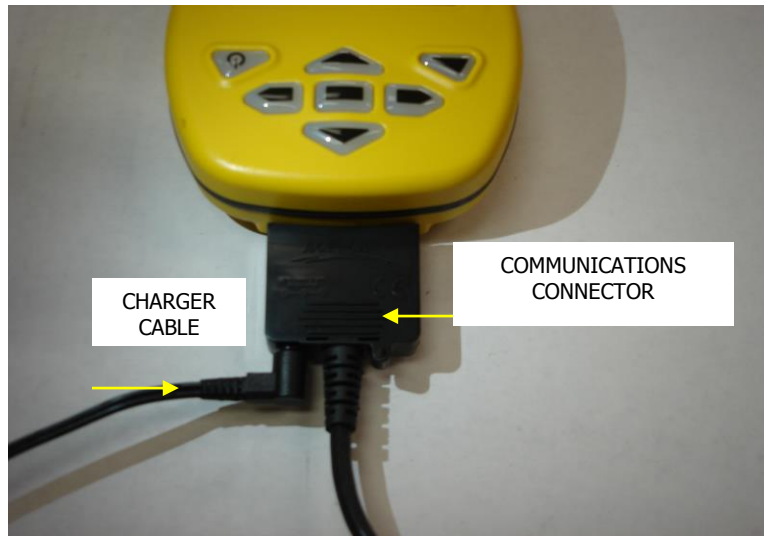

Figure 4: Charging Connection
(Reference Figure 4)
1. Connect the charger cable to the communications cable (Figure 4).
2. Connect the communications cable to the unit (Figure 4).